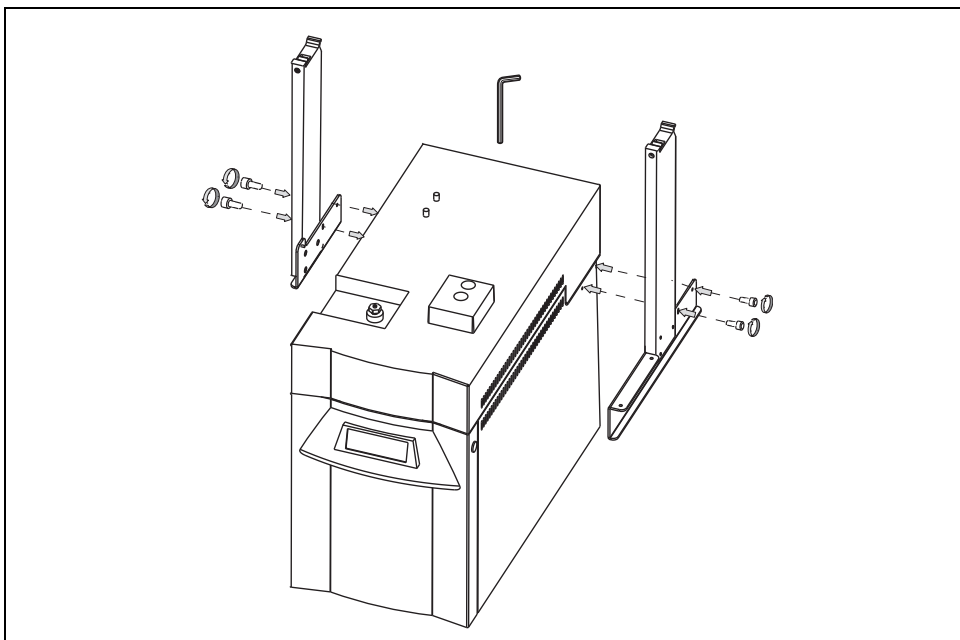

Figure 4-12. Sampler Supports Installation on the First Agilent 6850 GC (1)
2. Mount the left and right sampler supports respectively on left and right sides of the first GC as shown in Figure 4-12.